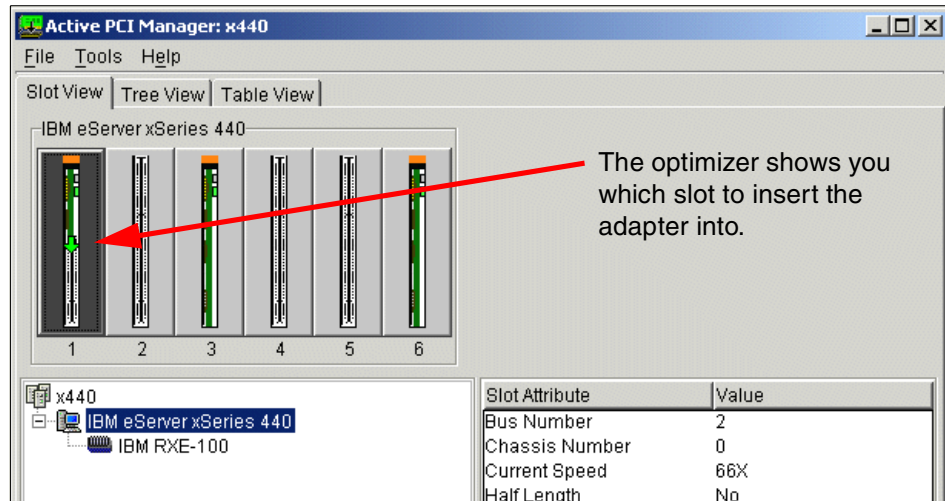

Figure 5-22 Hot Add
10. The slot view appears with an arrow showing you which slot to insert the adapter into, as shown in Figure 5-22.